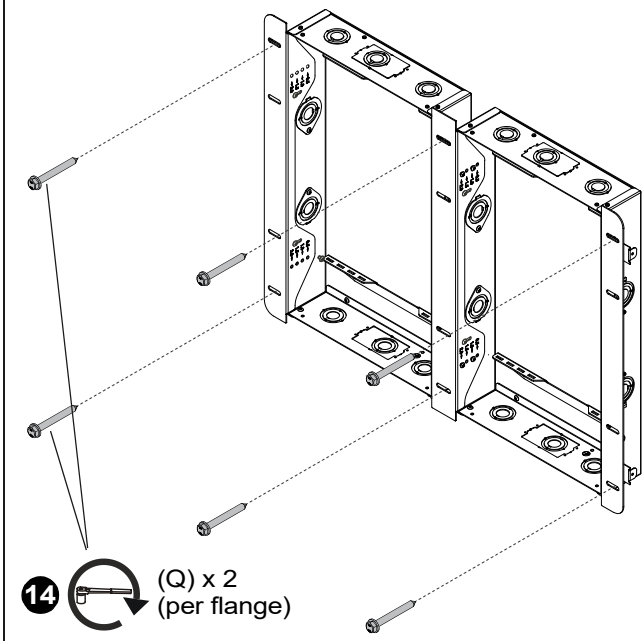

Figure 7
10. Place flange (C or D) over anchors and align mounting holes in display mount with holes in anchors. Loosely use two #10-24 x 1/4" button head cap screws (M) to secure each side flange (C) and saddle flange (D) to installed boxes. (See Figure 7)
12. Slide two top/bottom flanges (E) under screws installed in Step 11 at top and bottom of each box. (See Figure 7)
13. **Steel studs:** Use four 1/4-20 x 2" Phillips pan machine screws (NA) and four 1/4" washers (NB) to secure each flange to studs. (See Figure 7)
14. **Wood studs:** Use two 5/16 x 2-3/4" lag bolts (Q) to secure each flange to studs. (See Figure 7)